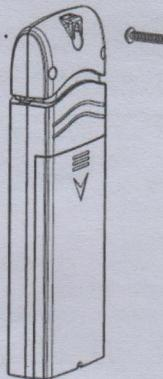

Figure 2
1. Use a screw or nail to affix the remote sensor to the wall, as shown in Figure 2